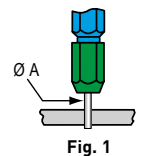

Fig. 1
- "GO" - Insert the end (green) of the gauge as shown (Fig. 1). The gauge must pass freely between the indenter tips.